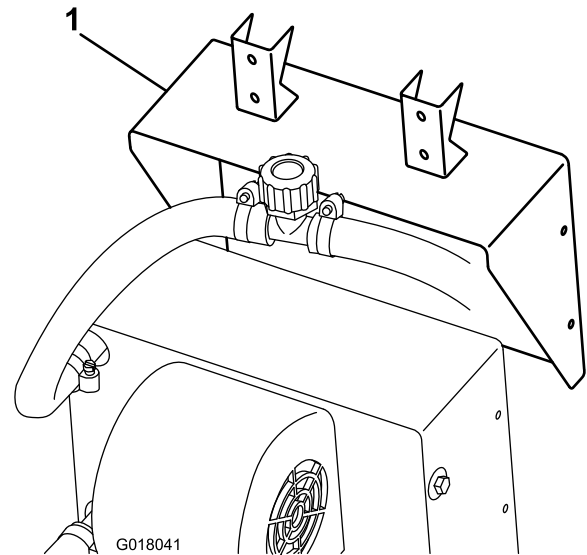

Figure 15
2. Attach the heater bracket to the heater using the screws supplied with the heater (Figure 15).